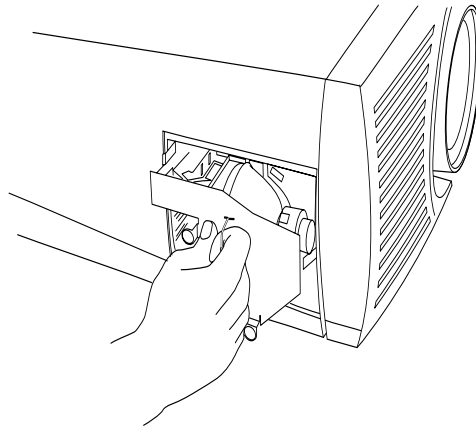

FIGURE 29
- 6 Remove the module (Figure 29).